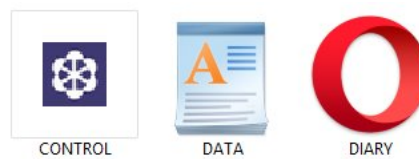

Fig.5 – Monitor window showing removable drive content.
- in a few seconds the PC system (**OC Windows XP and higher**) will identify its connection. In the «My computer» the new removable disk will appear. The window will be displayed on the screen of PC (see Fig. 5)